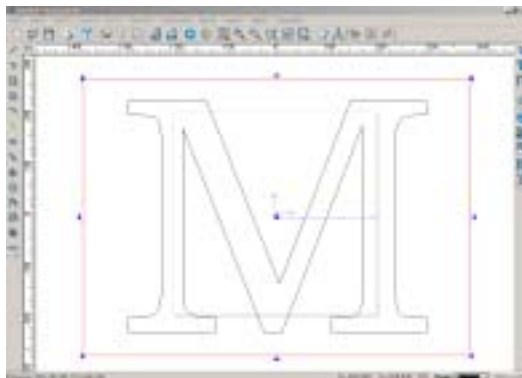

Fig. 12-13
6. Click on the shortcut icon  on Curve Bar or select Draw->rectangle->rectangle command in the menu bar to draw a rectangle around the letter. (Fig. 12-13)